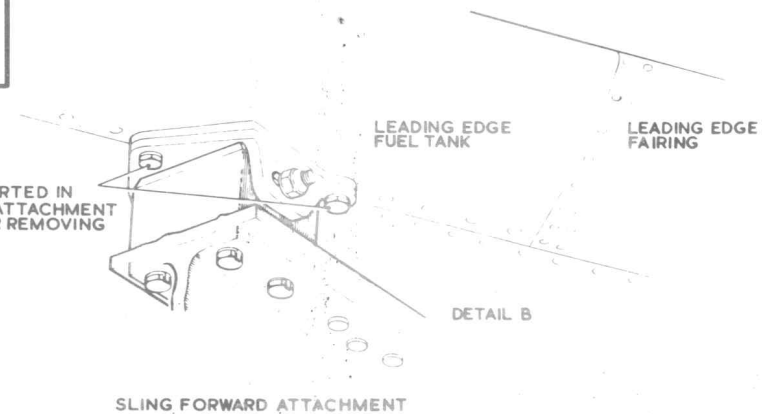

FIG. 6. SALVAGING A CRASHED AIRCRAFT (SLINGING METHOD)
(1) Locate the junction of the leading-edge tank, outboard end, and the leading-edge panel, on the under-surface of the main plane.
(2) Count inboard to the fifth and ninth countersunk bolts securing the tank to the spar 1 (*fig.6, detail B*) and, using an Allen key, remove the bolts.
(1) Insert the slinging eyebolts into the main plane slinging points (*fig.6, detail A*), with the eye-end on the top main plane surface. Note that the bolts are handed.
(2) Fit the rear beam brackets to the underside of the main planes by screwing them onto the protruding portion of the slinging bolts.
(b) The threaded portion of the bolt protrudes through the rear beam brackets (*fig.6, detail A*).